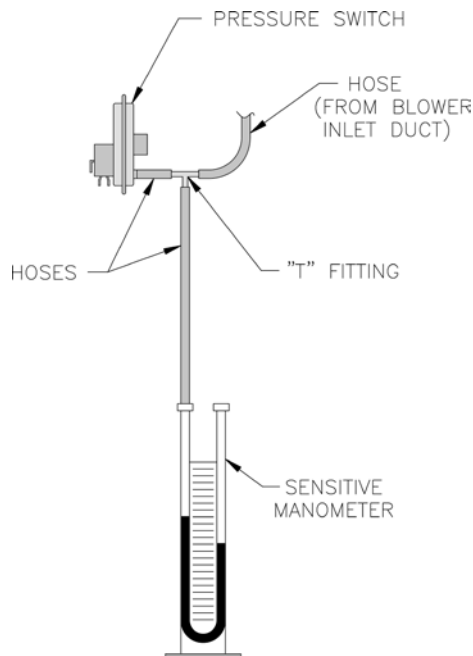

Figure 21: Procedure for Measuring Fan Inlet Pressure
J. Procedure for measuring fan inlet pressure. See Figure 21.